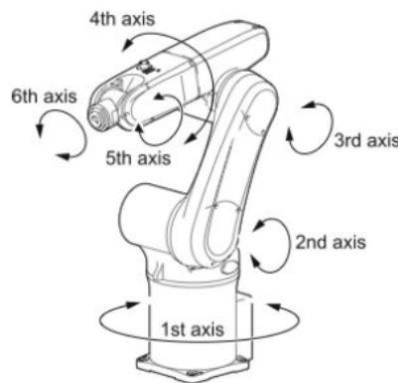

Figure 12.1 Six Axis Aristo Robot
12.1 Preparation of articulated robot for lifting load as shown in Figure 12.1